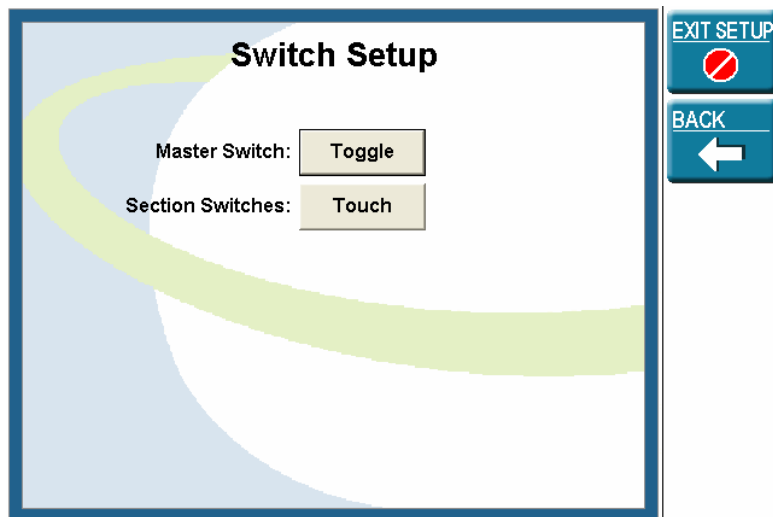

Figure 6-8: Switch Setup Window
- 9) Set Master Switch to **TOGGLE** as shown in Figure 6-8.